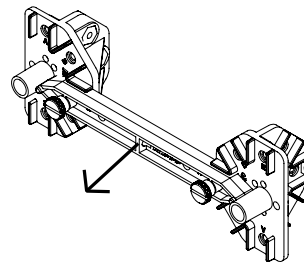

Figure 3: Floor construction, first step.
- Attach one #3 I-Beam between two full round connectors using truss set screws. Make sure the "cross-bar" on the #3 I-Beam faces outward, as shown in Figure 3.